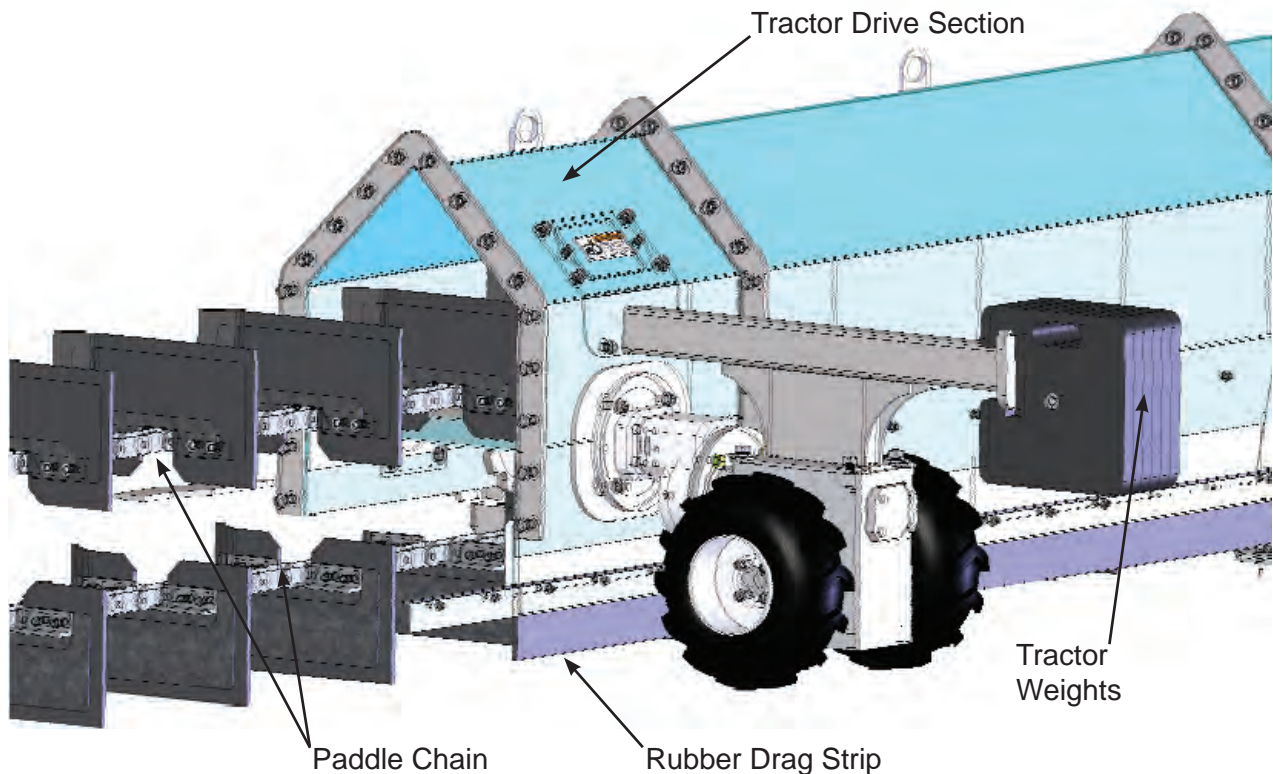
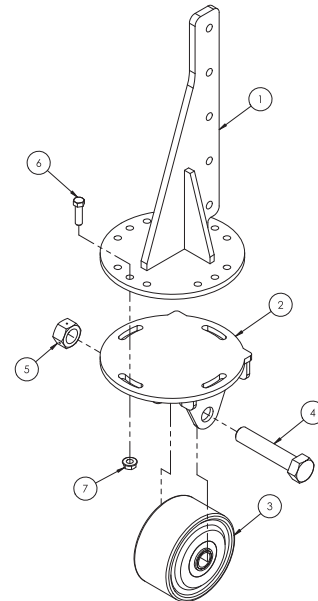

Figure 4-23: Tractor Drive Section
Figure 4-24: Caster Bracket Exploded View
4. Install the first Tractor Drive Section as shown on the following page in Figure 4-23. Also install a Castor Bracket Assembly, between the tractor Drive assembly and the Intermediate Section as you are installing the Tractor Drive Section. See Figures 4-24 and 4-25. Use Grade #8 - 1/2" section bolts provided.
5. Torque all 1/2" section bolts to 100 ft lbs. without the use of an impact wrench. See Figure 4-23.
6. Install the drag strip (#7) and drag rubber clamp plate (#1) using the hardware provided. See Figure 4-23.
4. Install the Pivot Section as shown in Figure 4-24. Use Grade #8 - 1/2" section bolts provided. Torque all 1/2" section bolts to 100 ft lbs. without the use of an impact wrench. See Figure 4-24.